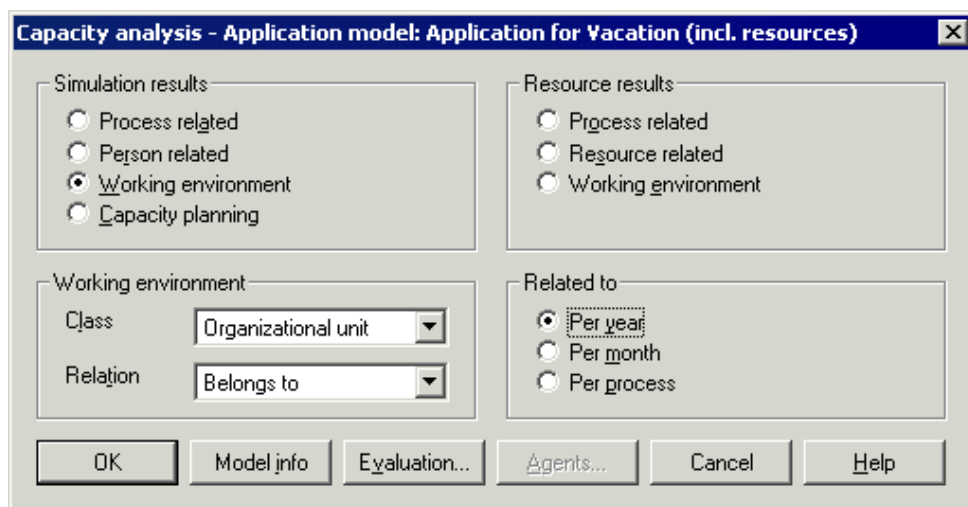

Figure 323
After the simulation run, the result window "Capacity analysis - application model: <Model Name>" (see fig. 323) appears.
**Hint:** To view the personnel capacity demand you must select "Per year" or "Per month" in the window "Capacity analysis - application model: <Model Name>" (see fig. 323).
Transfer the results of the capacity analysis by clicking on the button **"Evaluation"** in the window "Capacity analysis - application model: <Model Name>" (see fig. 323).